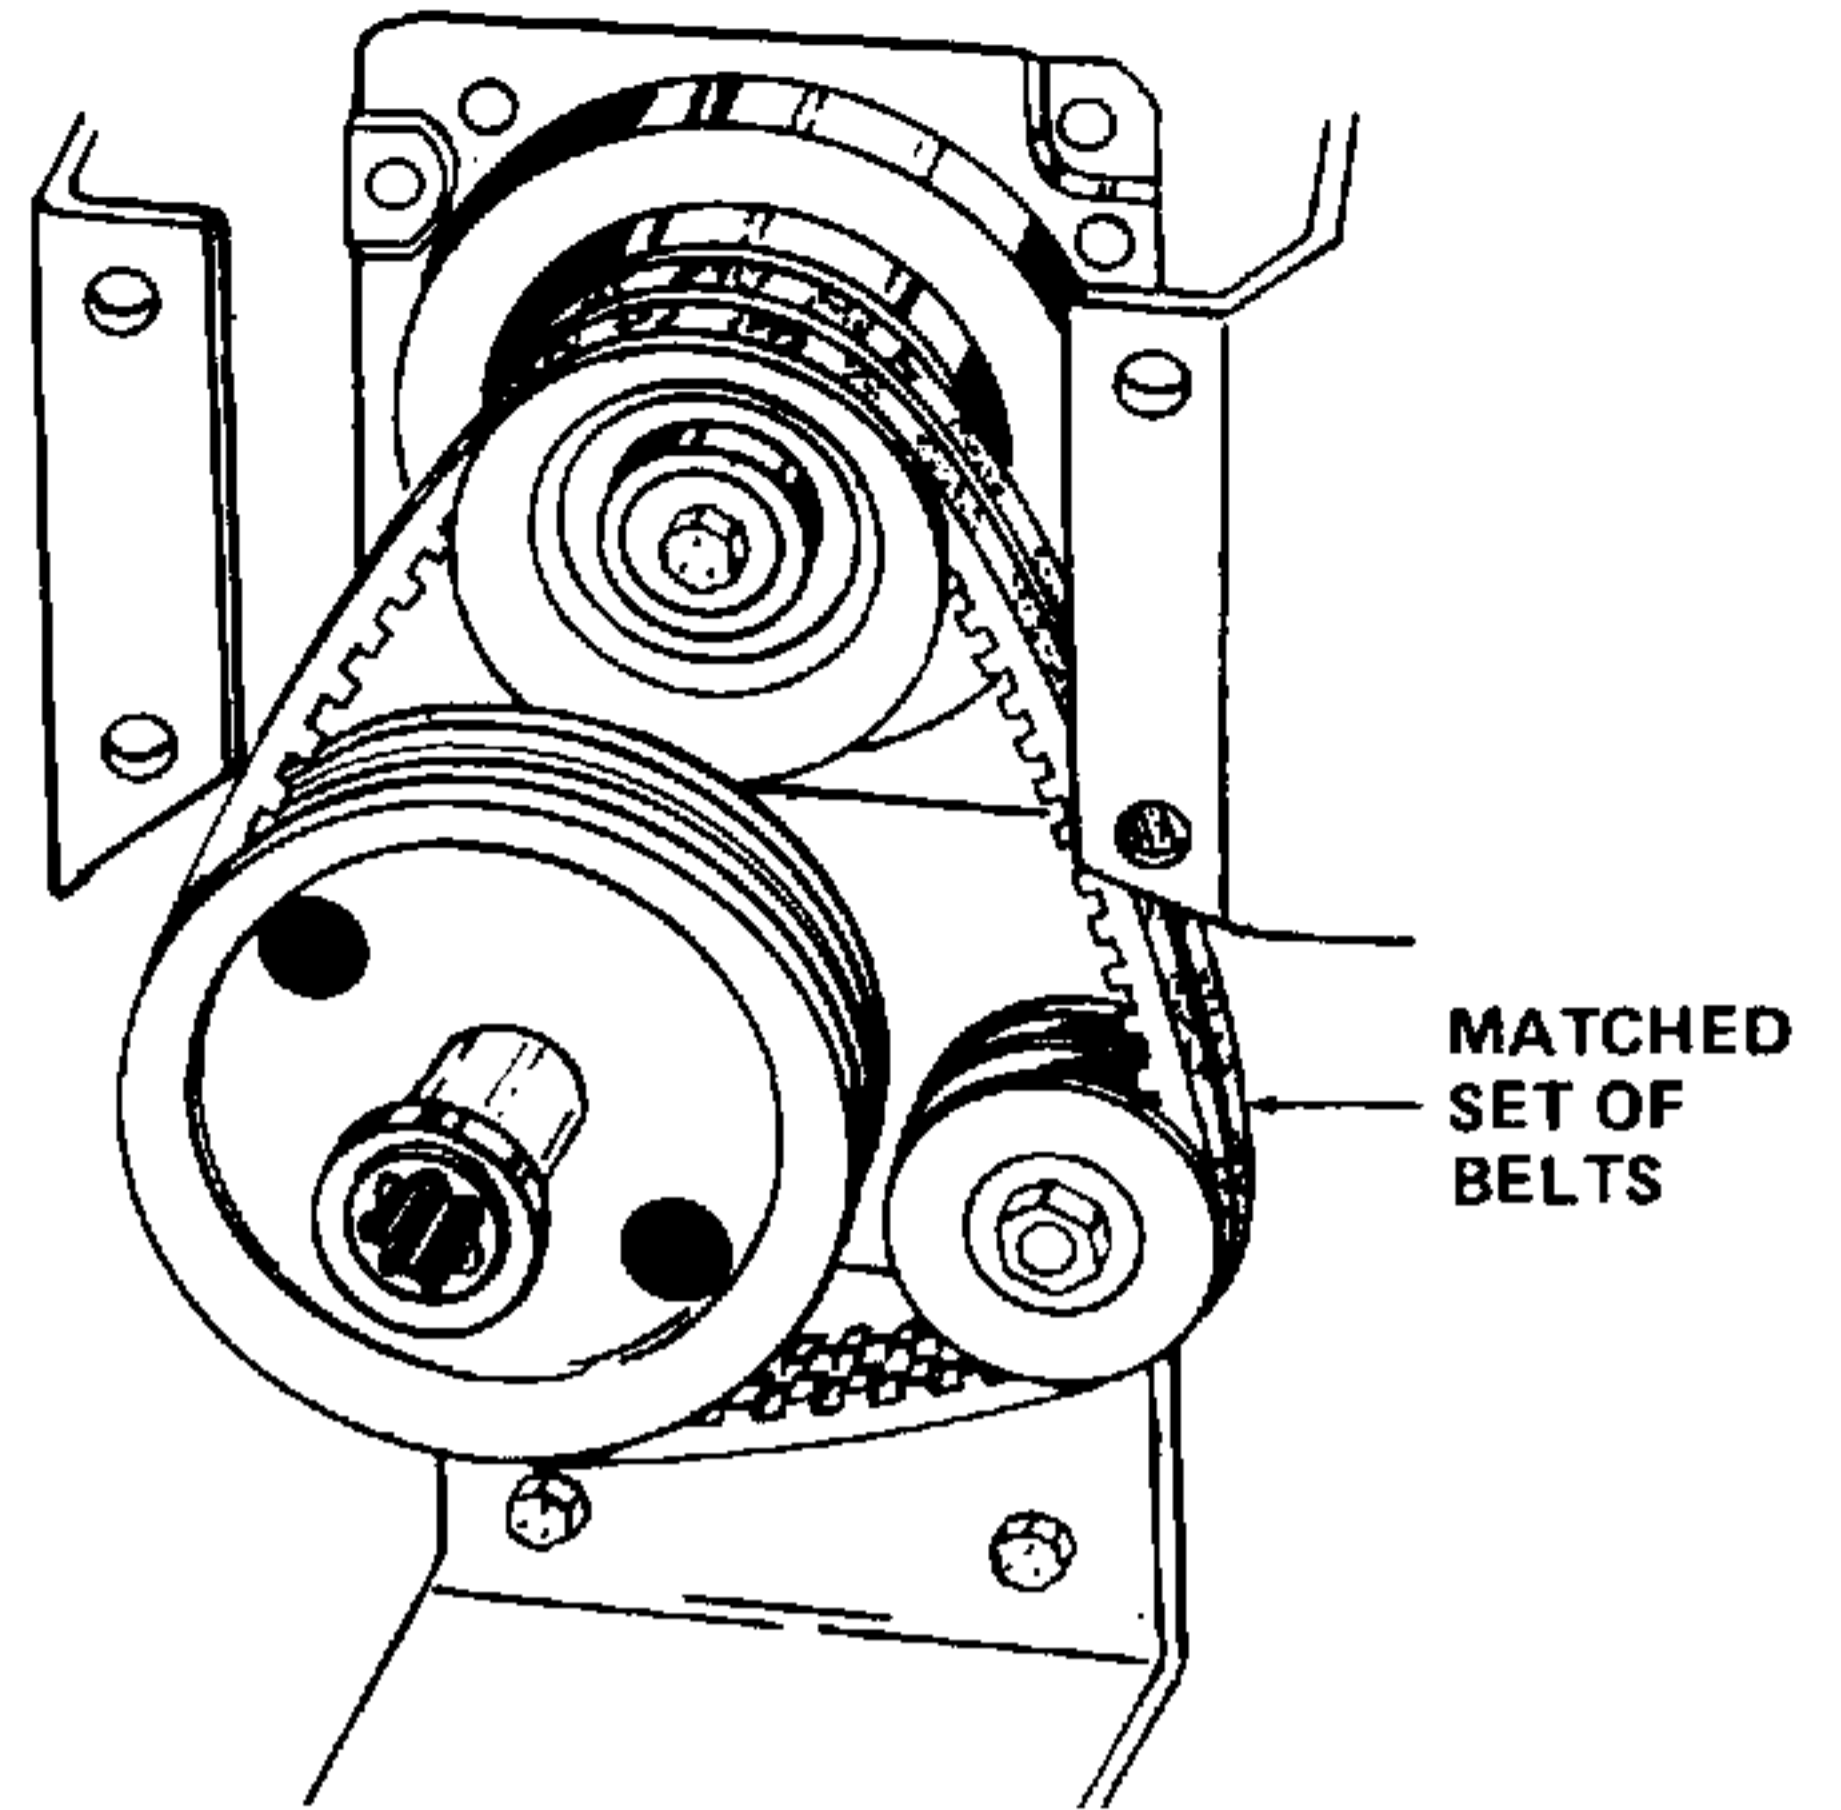

Figure 7-24. Installing Matched Set of Belts.
11. Install matched set of belts (5, Figure 7-3) onto pulleys as shown in Figure 7-24.